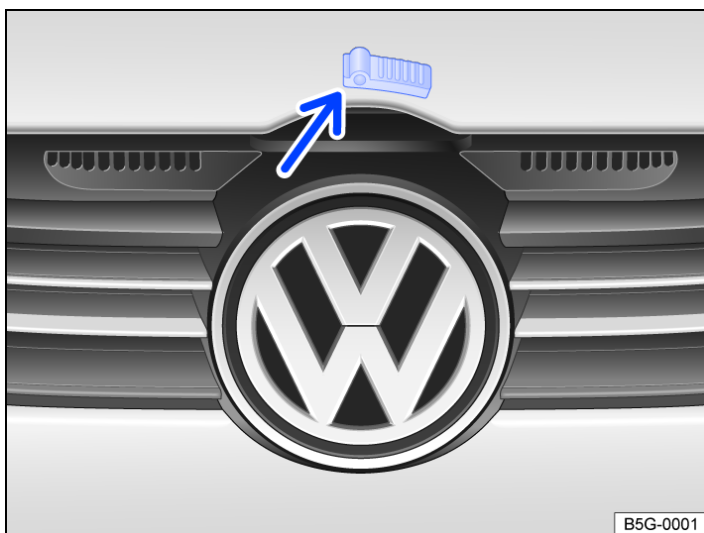

Fig. 2 Above the radiator grille: bonnet control lever.
- Lift the bonnet, press the control lever and open it fully → Fig. 2. The bonnet is held by gas struts.